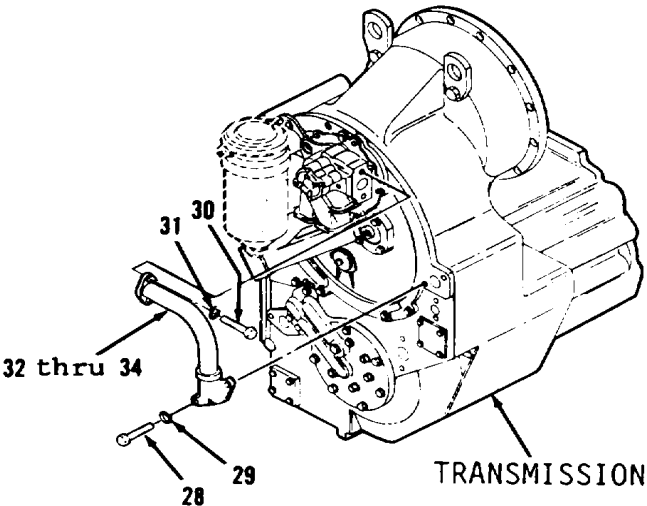

Figure 5-53.
- 4. Position items 34 thru 32 as an assembly and install two lockwashers (31), bolts (30), lockwashers (29) and bolts (28, Figure 5-53).